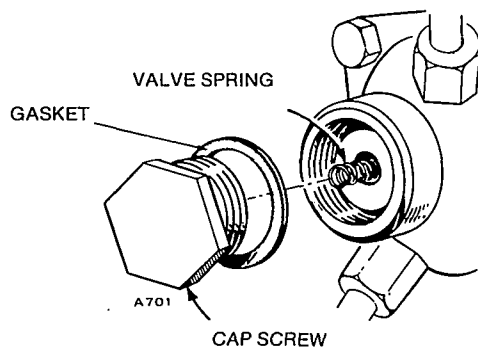

FIGURE 14. EARLY MODEL DELIVERY VALVE HOLDER
9. On early model (Figure 14) injection pumps, remove capscrew and install valve spring and capscrew with gasket. Torque capscrew to 75 to 89 ft.-lb. (102-120 Nm).